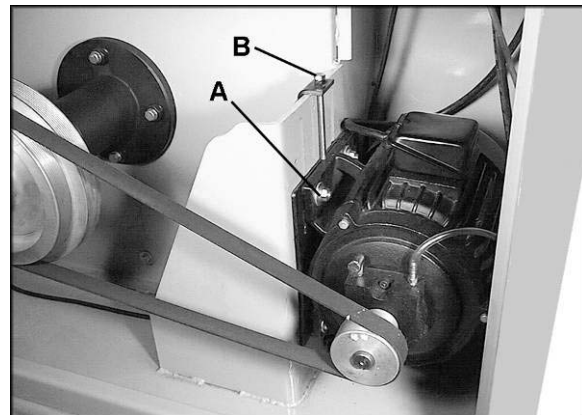

Figure 23
3. Loosen the four hex nuts on the motor plate (A, Figure 23).
4. Turn the tension screw (B, Figure 23) counterclockwise to reduce tension (for example, to remove the belt) or clockwise to increase the tension on the belt.
6. Tighten the hex nut on the tension screw (B, Figure 23) and tighten the four hex nuts (A, Figure 23).
1. Loosen the four hex nuts (A, Figure 23)
4. Re-tighten the four hex nuts (A, Figure 23).
2. Loosen the four hex nuts (A, Figure 23) and rotate the tension screw (B, Figure 23) counterclockwise to release tension on the belt.
4. Re-tension the belt (see under "Belt Tension") and securely tighten all four hex nuts on the motor plate (A, Figure 23).